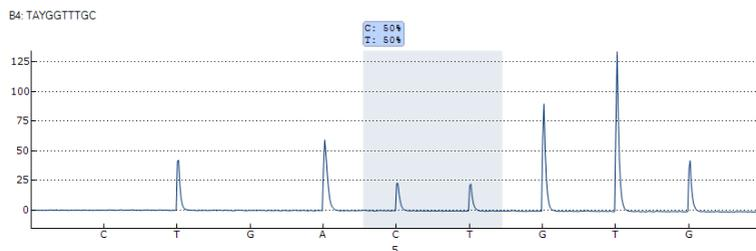

Figure 22. Example Run of the control Oligo on the PyroMark Q48 Autoprep.
26. Open the run in the PyroMark Q48 Software and analyze all wells. The peak pattern of the run should look like the one in Figure 22.